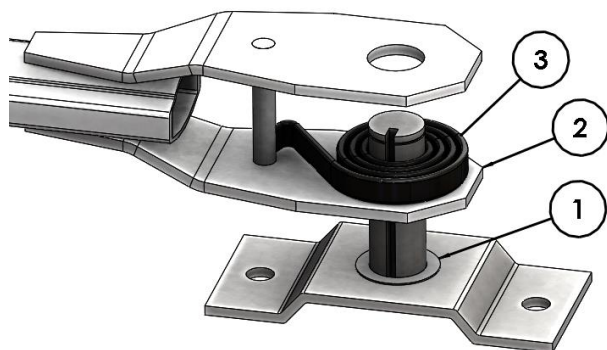

FIGURE 3.8: ASSEMBLING LOWER ARM
Begin assembling the arms on the pivot by installing the flat bushing (1) onto the pivot pin. Slide the first arm plate (2) onto the pivot pin and install the springs (3) one at a time. Spring tab should insert into pivot pin slot. See *Figure 3.8*.